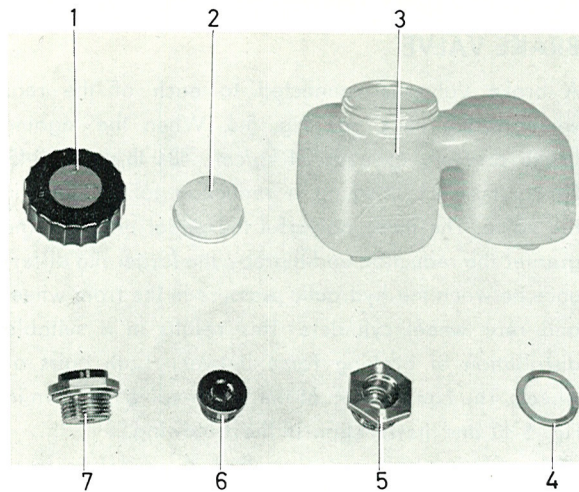
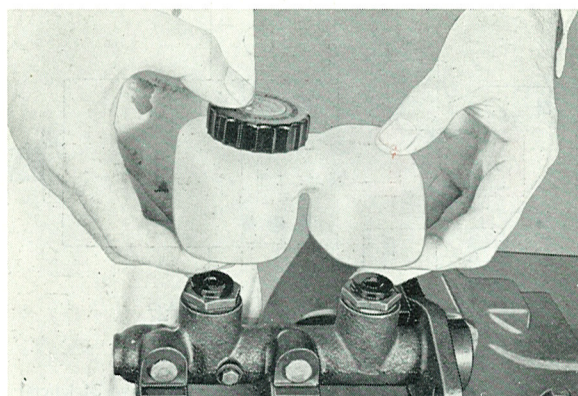
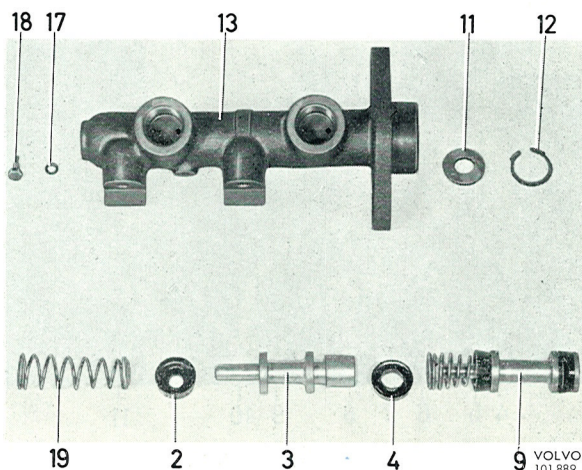

Fig. 5-45. Container parts
Fig. 5-44. Removing the container
Fig. 5-47. The master cylinder dismantled
2. Place both hands under the container and pull it up from the rubber seals, see Fig. 5-44. Remove the filler cap and strainer from the container and also the nuts and rubber seals from the cylinder, see Fig. 5-45.
4. Remove the two seals from the secondary piston. Be careful not to damage the surfaces of the plunger. Fig. 5-47 shows the cylinder dismantled. During reconditioning, the primary piston should be replaced completely. For this reason, it does not need to be dismantled.
During reconditioning, the primary piston complete (9, Fig. 5-47) should be replaced likewise the secondary piston seals (2 and 4), the stop screw (18) and its washer (17), also the circlip (12). In addition, the rubber seals (Fig. 5-45) for the container should be replaced.
5. Fit nuts (5, Fig. 5-45) with washers (4) and rubber seals (6). Check that the venting hole in the cap (1) is clear and fit the strainer (2) and filler cap in position. Fit the container, compare Fig. 5-44. Fit the brake contact.